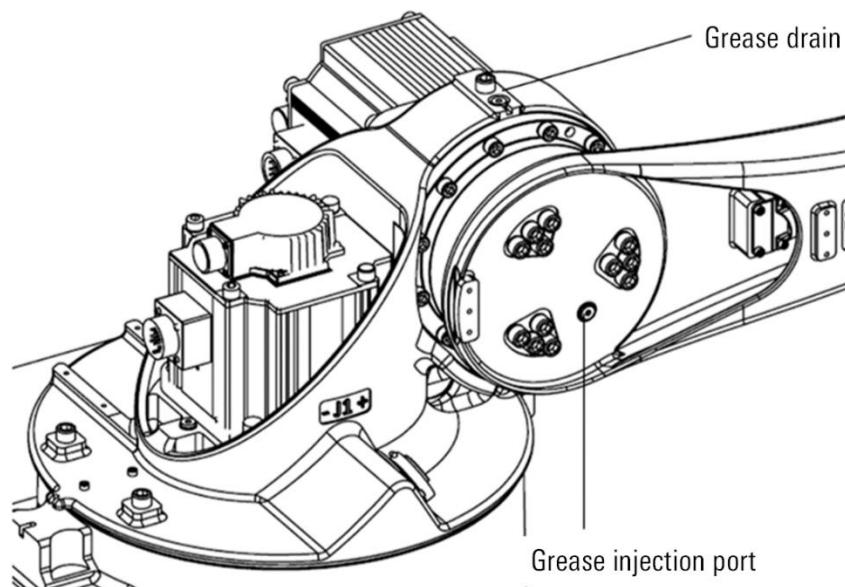

Figure 12-7 Replace J2 axis reducer grease
- Step4. Remove the grease outlet M10x1 plug, as shown in Figure 12-7.